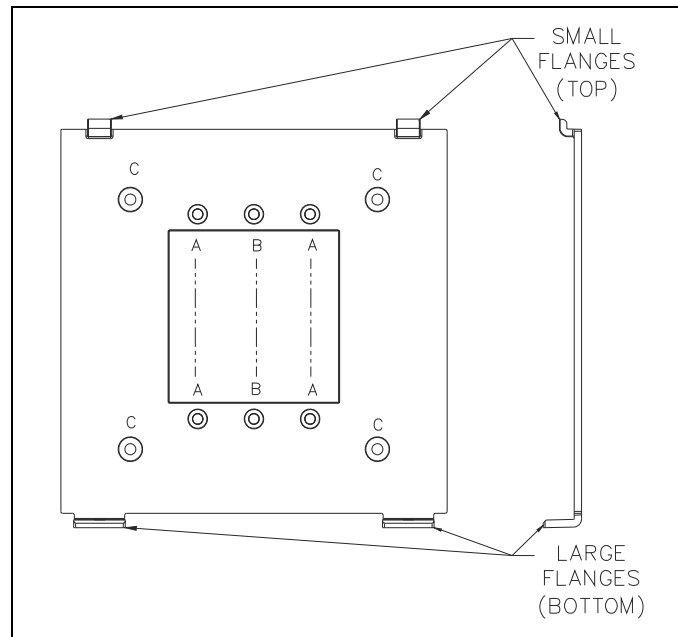

Figure 3. Smart Controller Wall-Mount Bracket
1. Orient the wall-mount bracket (see Figure 3) over the electrical box with the small flanges on top and the large flanges on the bottom.
- Mark the locations (C) for the four wall anchors or toggle bolts (not included) and the area in the center of the bracket where the cable(s) come through the wall using the support bracket as a template (see Figure 3).